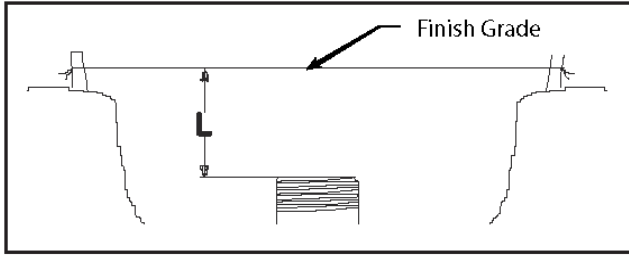

Figure 1
**Step 1:** (See Figures 1 and 2)